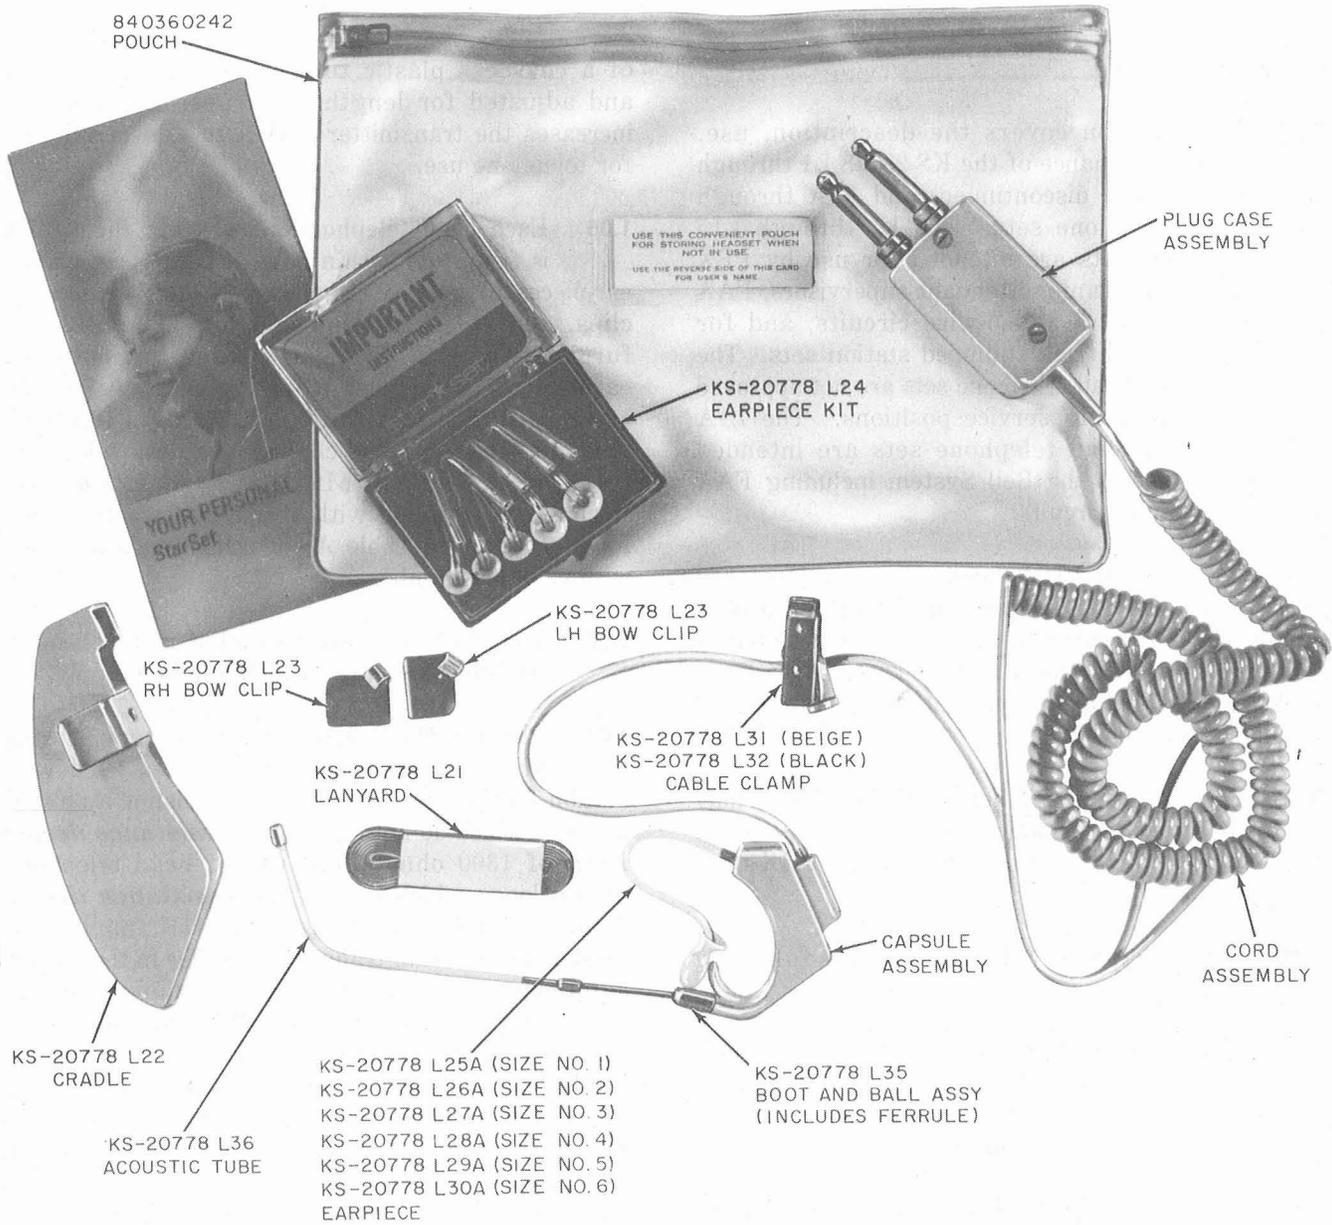

Fig. 1—KS-20778 ▶L1, L2, L1A, L2A and L16A◀ Head Telephone Sets ▶(L1 shown)◀
1.03 The KS-20778 head telephone sets (Fig. 1 and 2) are lightweight sets which do not require headbands. The head telephone set is held on the head by a flat plastic capsule shaped to fit behind and around either outer ear or by a clip attached to the user's glasses. A cable clamp is provided to permit the user to anchor the cable to his clothing.
4.01 Fig. 1 and 2 show the relationship of the various parts of the head telephone sets. The replacement part numbers of these parts are given together with the names as listed by the Western Electric Company Merchandise Department.
5.01 The only items to be replaced in the field are shown and identified by part number on Fig. 1 and 2. Do not attempt to replace or repair the capsule assembly, switch case assembly, plug case assembly, or cords. These items shall be returned in accordance with local instructions to the Western Electric Company for exchange or repair by the manufacturer. If the receiver, transmitter, and amplifier circuit board fail from normal usage during the two year warranty period, the manufacturer will repair or replace the defective item. The date of shipment stamped on the amplifier and capsule cases indicate the warranty effective date. Where field replacement of cords may be locally authorized such as large or attended installations, the KS-21233 L1 Test Fixture will greatly aid in assembly. For authorized locations a detailed service manual is available from the manufacturer through Western Electric Company as "Starset* Service Manual 06480-00."